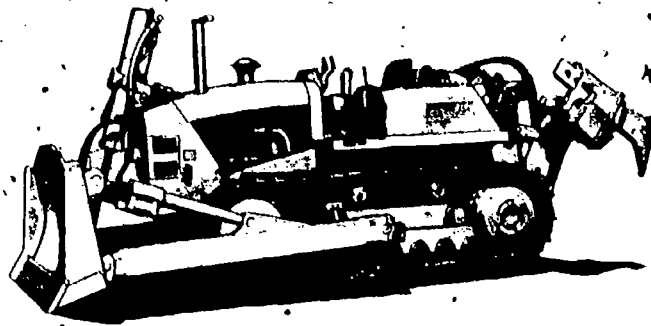

Fig 4-48. Side view of rear-mounted-ripper crawler-tractor attachment.
a. Introduction. The rooter, often called the ripper, is used to break up material which is too compact to be broken by dozers, scrapers, and graders, to uproot boulders and stumps; and to cut the roots of trees which are to be dozed down. The Marine Corps has one type of rooter, which is a rear-mounted attachment (fig 4-48). The mounted-type ripper for the 82-30M crawler-tractor is hydraulically controlled. Lubrication, inspection, service, and maintenance of the ripper is covered in the TM for the specific item or the tractor TM. The rooter attachment is normally equipped with three teeth, which are removable.